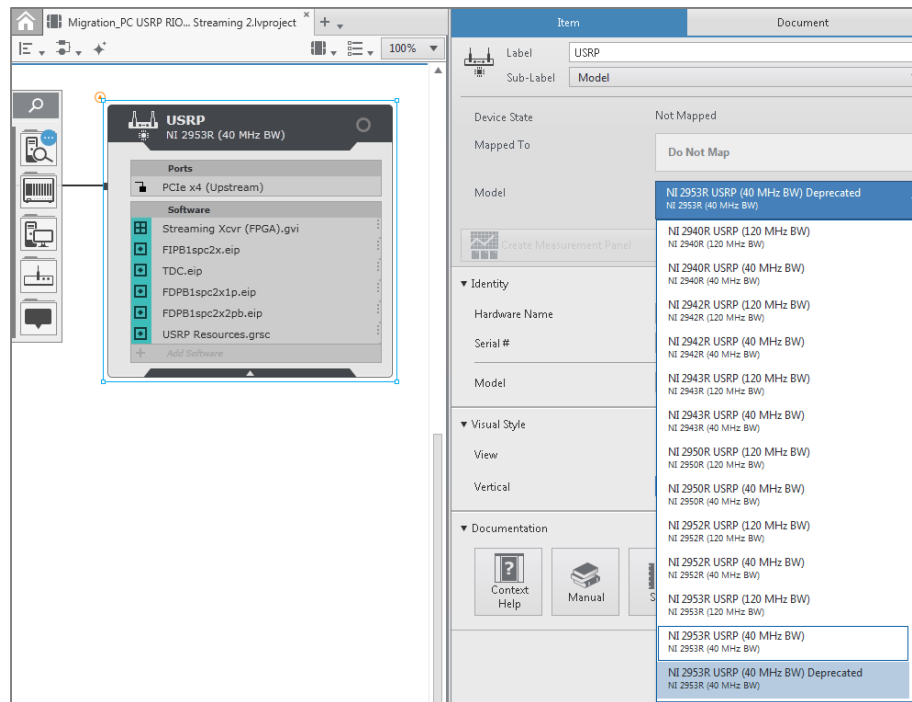

Figure 76: Select USRP Target from Right-Hand Rail
5. Select your USRP Target on the System Designer and change the "Model" in the right-hand rail to the non-deprecated version (ex: NI 2953R USRP (40 MHz BW) Deprecated » NI 2953R USRP (40 MHz BW)) as shown in Figure 76.